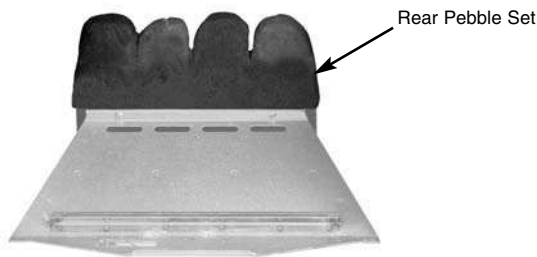

Fig. 29
1. Place the rear pebble set on the rear ceramic retainer ledge in a central position (Fig. 29).